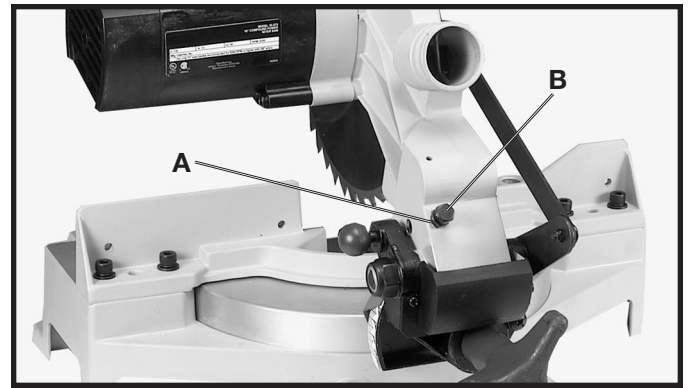

Fig. 30
Loosen locknut (A) Fig. 30 and turn screw (B) clockwise to increase or counterclockwise to decrease the spring tension. After the spring tension has been adjusted, tighten locknut (A).